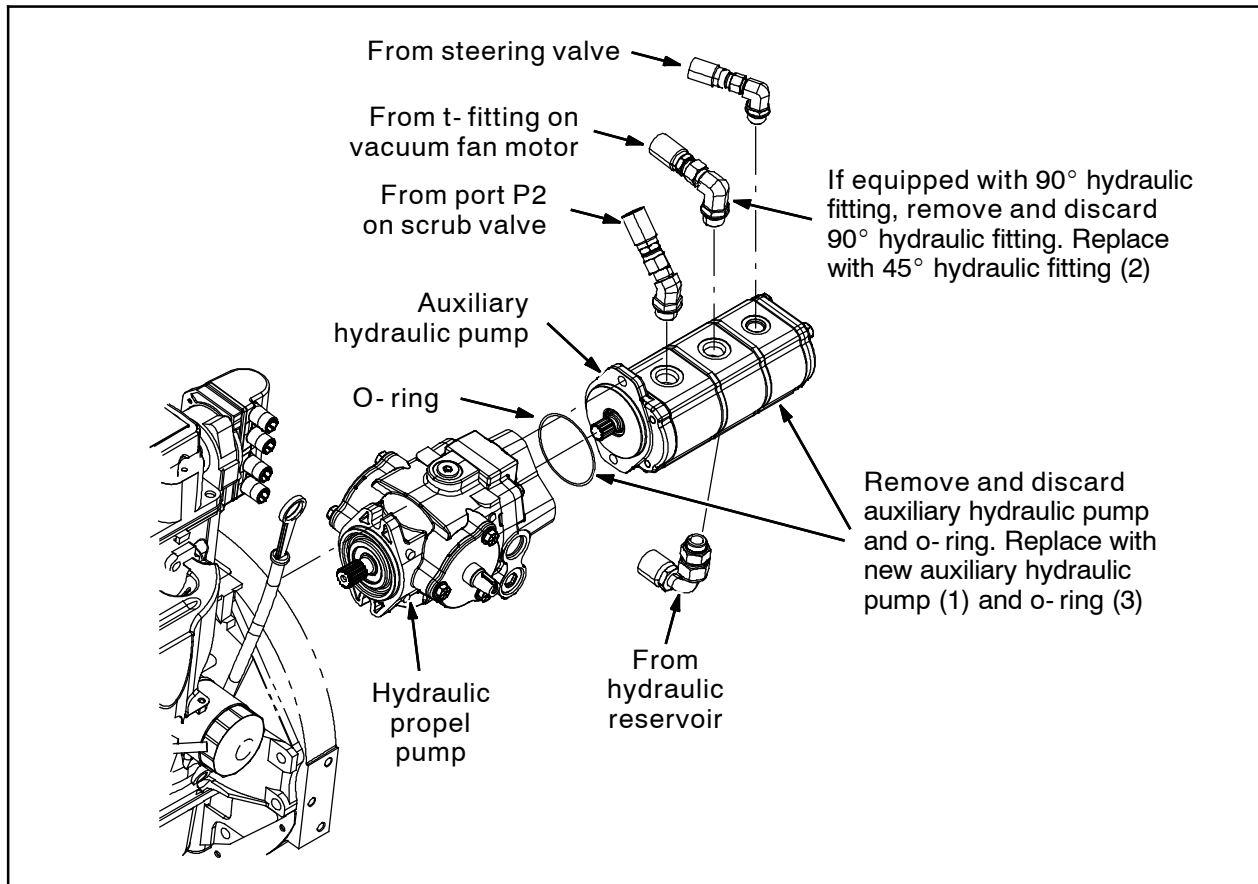
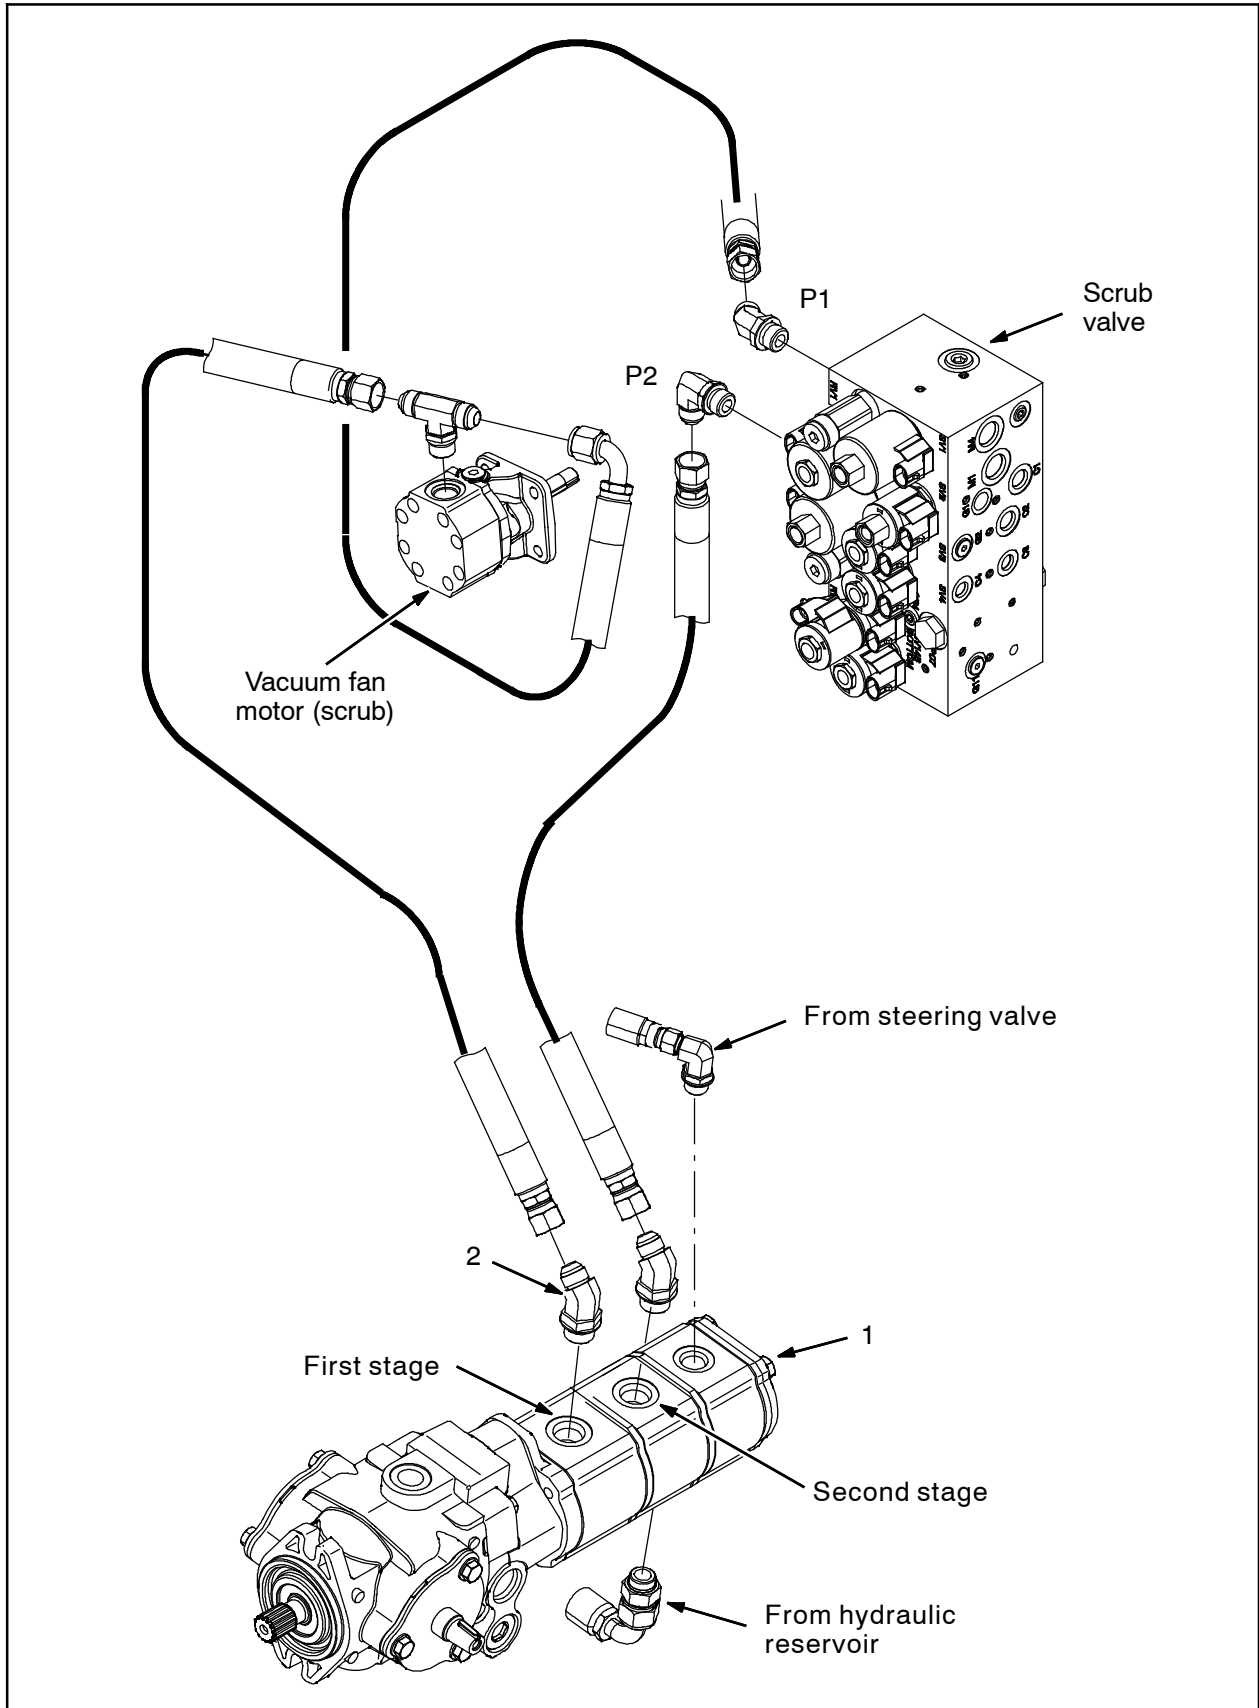

FIG. 1
FIG. 2
1. Disconnect all the hydraulic hoses from the auxiliary hydraulic pump on the hydraulic propel pump. (Fig. 1)
2. Remove the auxiliary hydraulic pump from the hydraulic propel pump. Discard the auxiliary hydraulic pump and o-ring. (Fig. 1)
3. Disconnect the 90° fitting from the hose connected to the t-fitting on the vacuum fan motor. Discard the 90° fitting. (Fig. 1)
4. Install the 45° fitting (2) onto the hose from the t-fitting on the vacuum fan motor. (Fig. 1)
5. Apply a light coat of grease onto the o-ring (3).
6. Install the new o-ring (3) into the new auxiliary hydraulic pump (3). Refer to Fig. 1.
7. Install the new auxiliary hydraulic pump (2) onto the hydraulic propel pump. Take care to not damage the o-ring (3) when installing the auxiliary hydraulic pump onto the hydraulic propel pump. (Fig. 1)
8. Install the hose connected to the t-fitting on the vacuum fan motor to the first stage on the auxiliary hydraulic pump (1). (Fig.1 / Fig. 2)
9. Connect the hose from port P2 on the scrub valve to the second stage on the auxiliary hydraulic pump (1). (Fig.1 / Fig. 2)
10. Connect the hoses from the hydraulic reservoir and front wheel drive motor to the auxiliary hydraulic pump (1). (Fig. 1 / Fig. 2)
11. Reinstall any components removed to make installing the new auxiliary hydraulic pump (1) easier. (Fig. 1)